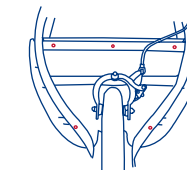

Fig. 7b
- These tubes must be lined up with the holes in the front frame assembly (Fig. 7b).